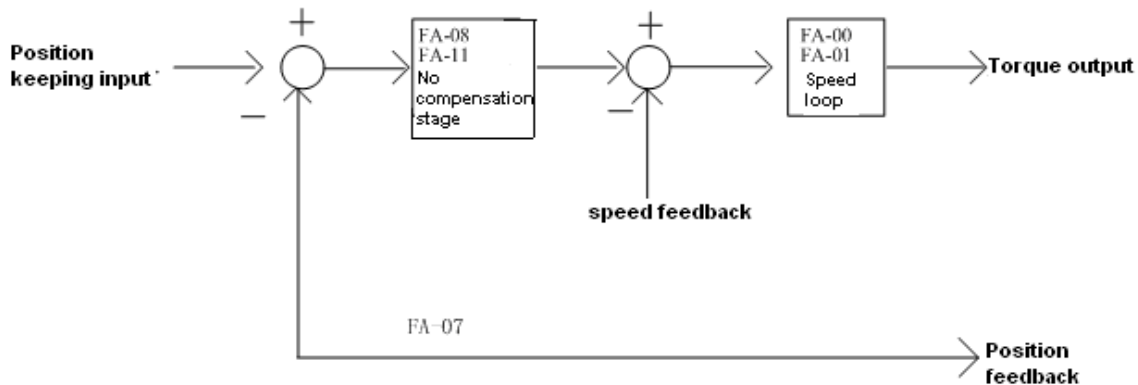

Figure 6.16: Flowchart for elevator starting without load compensation
- 1) Principles: As can be seen in figure 6.16 below, when brake open, based on the position feedback from Sine/Cosine PG card, system can calculate the necessary torque required for motor to remain the steady position under current load, and it gives corresponded torque at once to minimize the traction sheave movement and to achieve comfortable start.